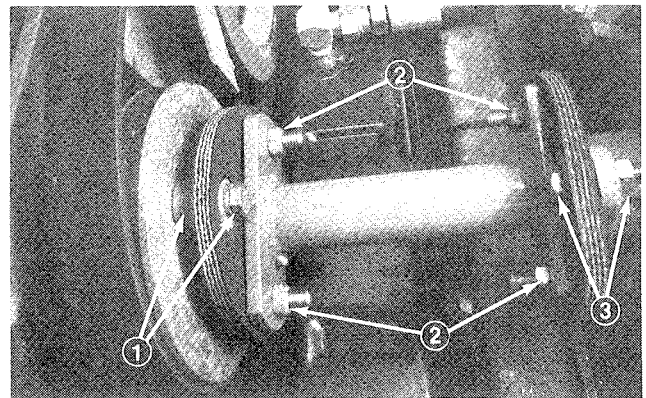

Figure 45
2. Remove two capscrews, lockwashers, flatwashers and spacers securing drive coupling assembly to engine pulley and two capscrews, flatwashers, small spacers and locknuts securing coupler to transmission hub (Fig. 45). Slide assembly out after capscrews are removed.
3. If drive coupling assembly must be disassembled, separate rubber couplings from power shaft by removing four nuts, flatwashers, capscrews and spacers (Fig. 45).
1. Assemble rubber couplings and power shaft with capscrews, spacers, flatwashers and nuts (Fig. 45).
2. Position drive coupling assembly between engine pulley and transmission hub, and align the holes. Secure drive coupling between pulley and hub with capscrews, lockwashers and flatwashers (Fig. 45). Tighten the capscrews alternately and evenly to prevent distortion of the rubber coupling.